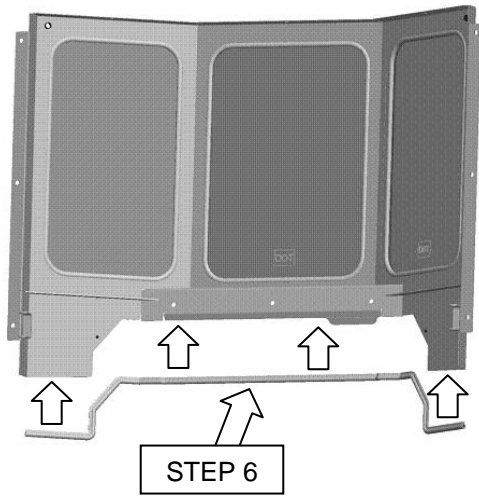

Figure 3
6. Apply 59" long bubble rubber seal from mount kit to bottom edge of rear panel, as shown in Figure 3.